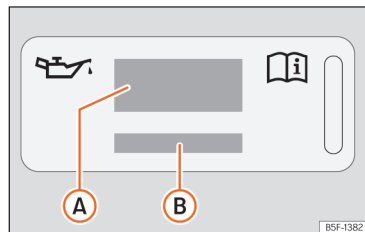
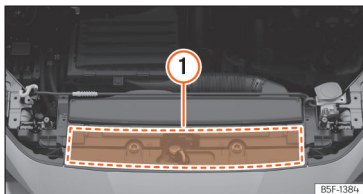

Fig. 225 In the engine compartment: engine oil label
Fig. 226 In the engine compartment: area where the engine oil label is located
Key to the >>> **Fig. 225:**
If the engine oil has to be topped up, use one of the oils shown on the label >>> **Fig. 225**. The label with the prescribed standard is located at the front of the engine compartment >>> **Fig. 226** **(1)**. If you use the recommended engine oil, you can top up the oil as often as necessary.
- If the label showing the engine oil specifications is missing >>> Fig. 225, please contact a specialist workshop.